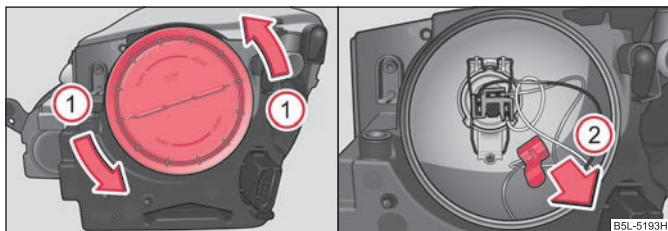

Fig. 189 Remove cap / removing the fixture for the parking light (halogen headlight)
- Turn the protective cap in direction of arrow ① **OPEN** ⇒ fig. 189 and remove it.
- Pull out the fixture in direction of arrow ② ⇒ fig. 189.
- Turn the protective cap in direction of arrow **OPEN** ⇒ page 238, fig. 189 and remove it.